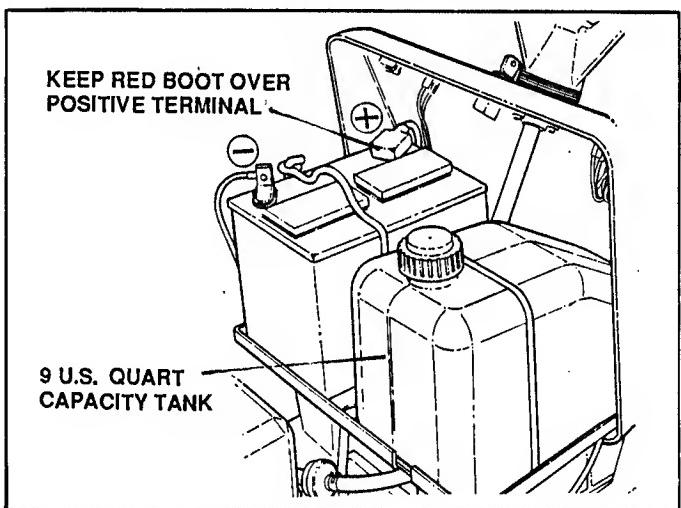

FIGURE 5
- **ADD FUEL** to tank after pushing the mower outside where fumes can be dissipated. Make sure cap is tightened after refueling. (Refer to engine manual for fuel specifications). See Figure 5.